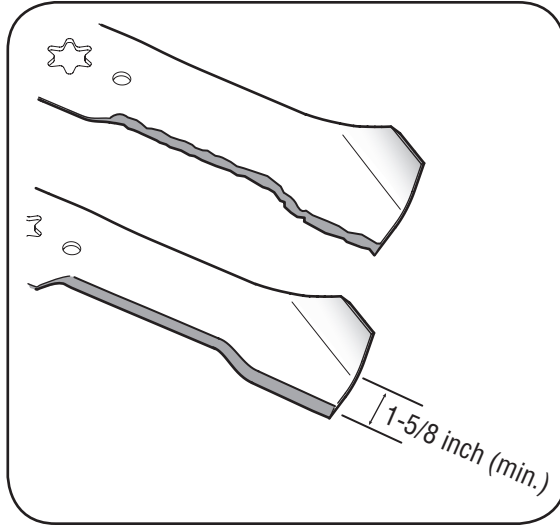

Figure 6-6
**IMPORTANT:** If the cutting edge of the blade has already been sharpened to within 1 5/8" from the edge, or if any metal separation is present, replace the blades with new ones. See Fig. 6-6.